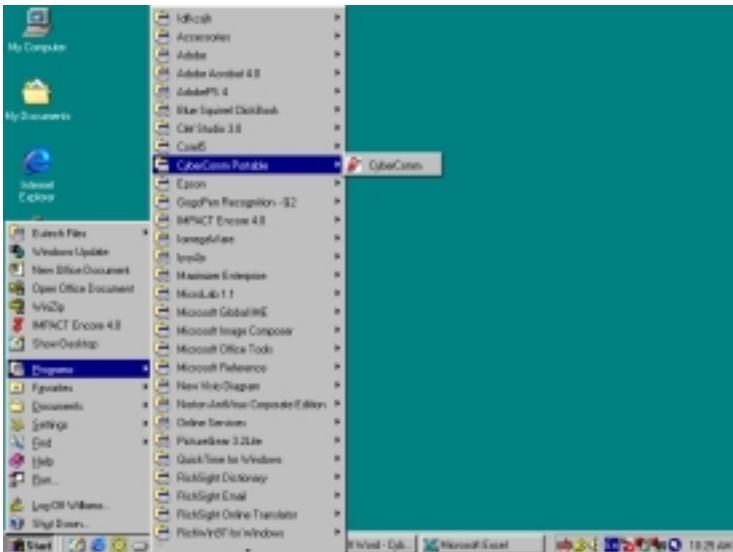

Figure 50 - Run the CyberComm Software program
2. Switch on the CyberScan pH 100 meter and run the CyberComm Portable DAS software as indicated in Figures 50 and 51.